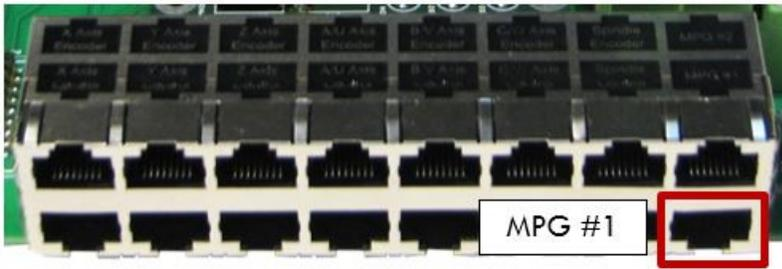

Figure 4 - Apollo III MPG Socket
2. Apollo III: An Ethernet cable must be run from the MPG plug on the operator panel (see Figure 1) to MPG #1 on the Apollo III board (see Figure 4).